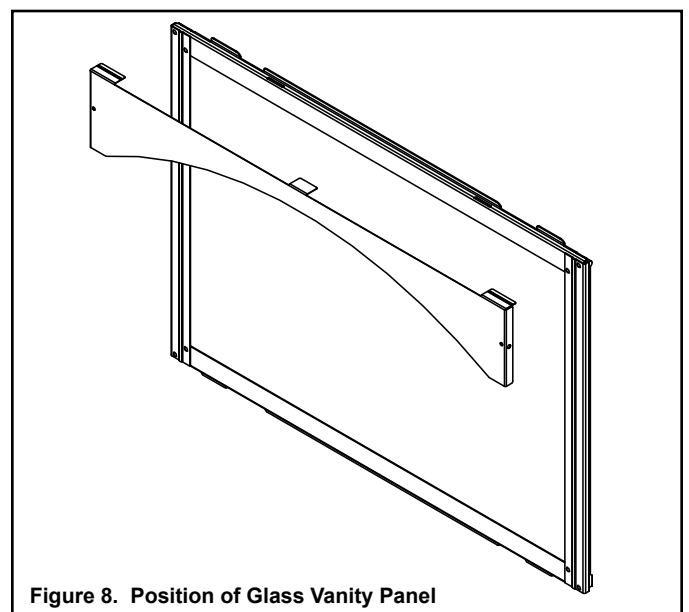

Figure 8. Position of Glass Vanity Panel
8. Remove the glass assembly from the appliance and place on a drop cloth. For Arcadia and Chateau Forge series, install glass vanity panel by positioning the vanity panel on the glass assembly. See Figure 8.